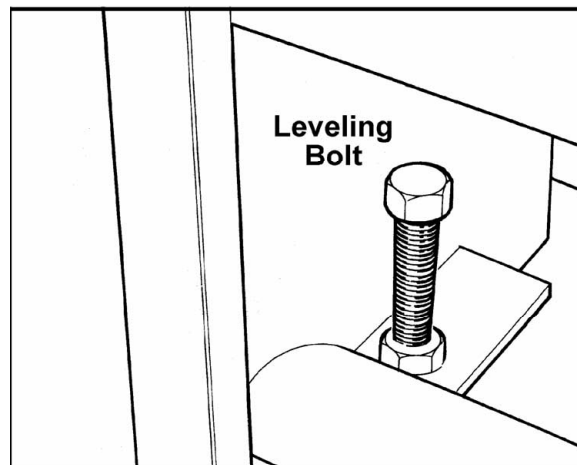

Figure 3
2. When the machine has been placed in the intended location, it must be leveled to ensure the smooth motion of the sliding table. Use a level on top the table, and adjust any of the four bolts in the corners of the base (Figure 3) as necessary.